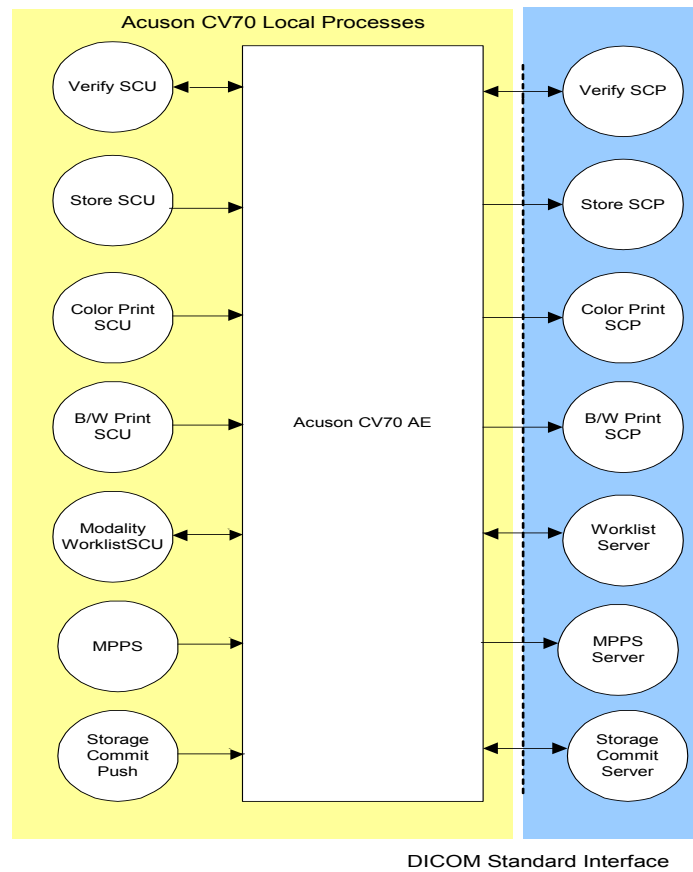

Figure 1 Implementation Model.
Figure 1 illustrates the Acuson CV70 system's Application Entity (AE), which is shown in the box. Relationships between users invoked activities (in the circles at the left of the AE) and the associated real-world activities provided by DICOM service providers (in the circles on the right side of the diagram) are shown.